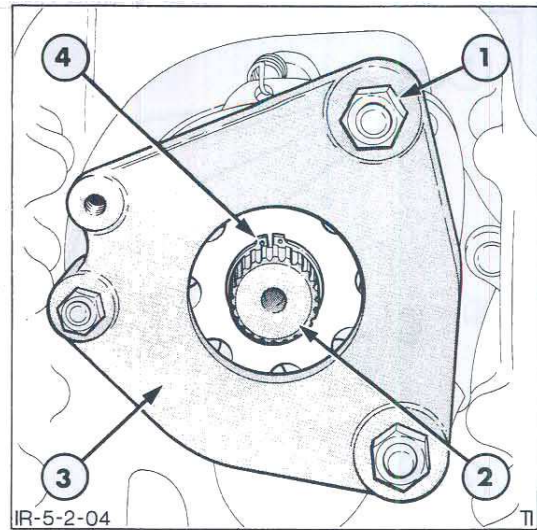

Figure 4
Right Hand Axle Housing – Remove the differential lock fork by loosening the differential lock fork screw and locknut Figure 4 and remove the differential lock lever shaft.
6. Remove the nuts that retain the front reaction plate, Figure 4. Disassemble the front reaction plate, brake discs and actuating plates from the drive pinion shaft after removing the snap ring.